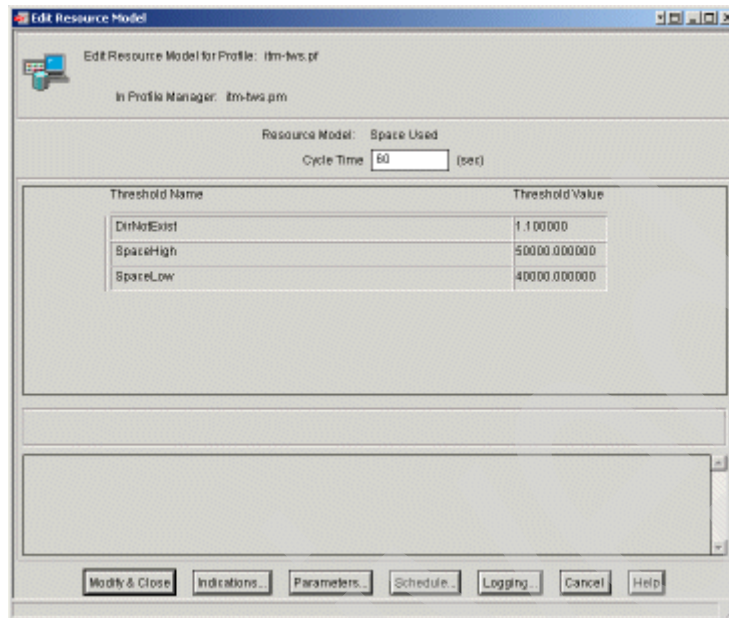

Figure 9-132 Opened resource model
2. Double-click a resource model in the Resource Model list (for example, the Space Used resource model as shown in Figure 9-132 on page 530).